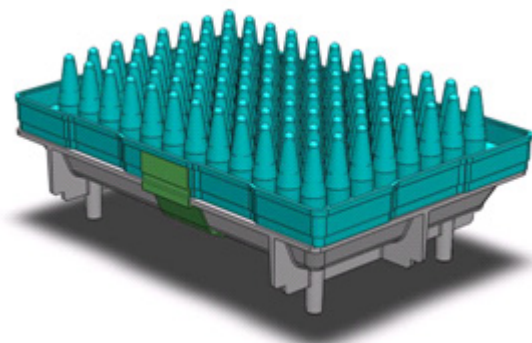

Figure 39 The inverted plate assembly.
2. Seal the pieces together with tape on all four sides and flip the entire apparatus so that the 96-well plate is upside-down over the collection tray immediately prior to centrifugation (see Figure 39).